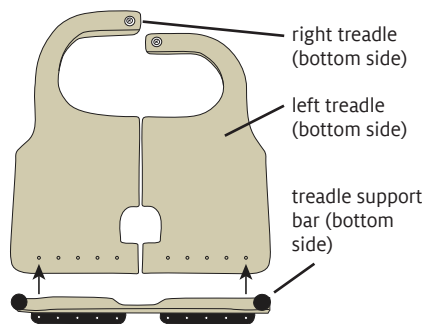

FIGURE 1: POSITION TREADLES AND TREADLE SUPPORT BAR
1. Place the left treadle and right treadle wrong side up on the work surface, with their straight edges facing you and their narrow curved ends pointing inward (Figure 1). The treadles should lie flat: let the hardware on the curved ends hang off the back of the work surface or set them on books or blocks of wood.
2. Orient the treadle support bar with the treadle hinges on the bottom facing you and their holes lined up with the pilot holes on the underside of each treadle (Figure 1).